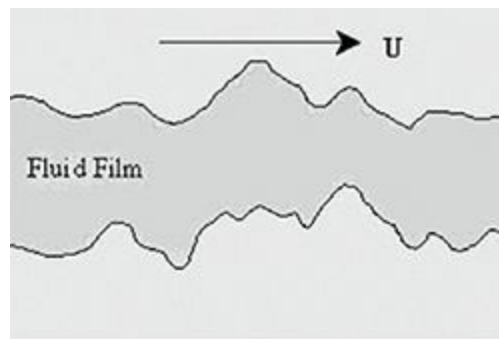

Figure 2.2—Full Fluid Lubrication
4. **Full fluid lubrication**, also called hydrodynamic lubrication, is where two surfaces are completely separated by a fluid film (see Figure 2.2). Full fluid lubrication is essential for the long-term reliability of high-speed, fluid film bearings. A full fluid film is formed when the bearing geometry, shaft speed, and oil viscosity combine to generate sufficient pressure to support the full bearing load. This is self-generating pressure that results in the complete separation of the shaft from the bearing.